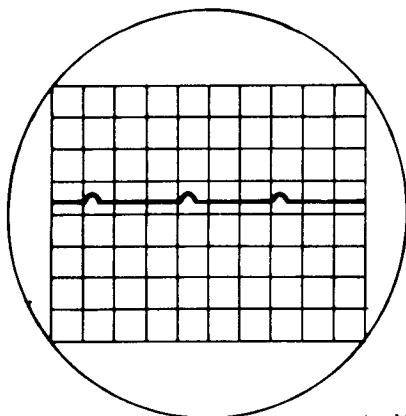
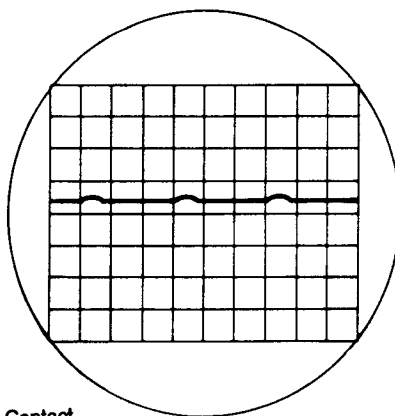

Fig. 3
Fig. 4
3. No increase in AC supply current for increase in signal Signal is unstable and clips 100W o/p for 0.3V input Waveform trace as in Fig. 3 Waveform trace as in Fig. 4 Approximately 4W output	R3 O/C, C1 O/C, R31 O/C R6 O/C R20 O/C, R21 O/C TR8 O/C, TR6 S/C, R36 O/C, R30 O/C, C10 S/C L2 O/C R16 O/C